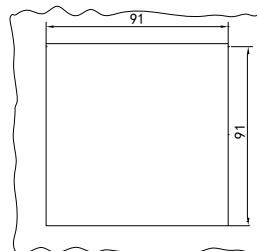

Figure 1: Cut in the panel
- 1.- Make a cut in the panel, according to the dimensions in **Figure 1**